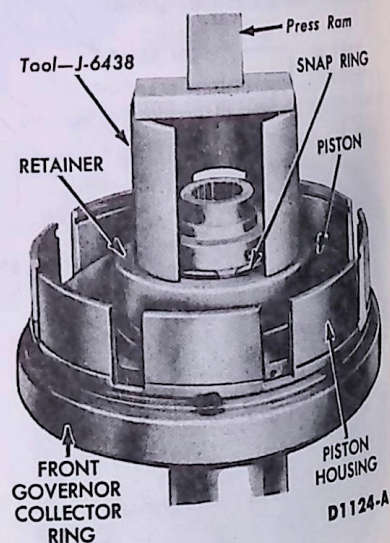

FIG. 56 High-Range Clutch Piston Return Spring Retainer Installation
4. Position the coil-type piston return springs on the top of the piston, set the retainer on the springs and position the tool on the retainer (Fig. 56). Align the hole in the retainer with the hub of the housing, and then center the tool on the retainer. Compress the springs until the retainer is sufficiently below the snap ring groove and install the snap ring. Make sure the inner edge of the retainer does not catch in the snap ring groove.